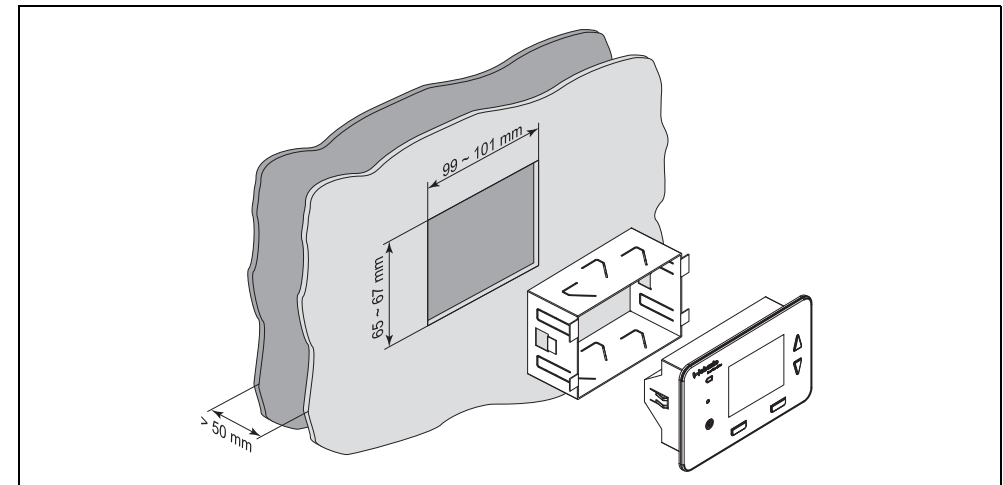

Fig. 50: Installing programmable control panel
- Cut the aperture in the desired installation location (see Fig. 50).